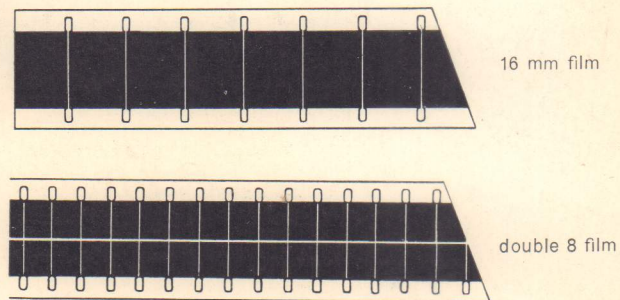

Fig. 4.
- i. The film must not be cut to a point (Fig. 4) nor must it be crinkled. Hold the film between the thumb and the index finger of the left hand and pass it through knife 41 (see Fig. 5 and 7). With the index finger of the right hand press hard on blade 42, which will cut the end of the film to the right shape for passage through the automatic loading device. Throw away the cut end of the film to prevent its passing through to the mechanism.